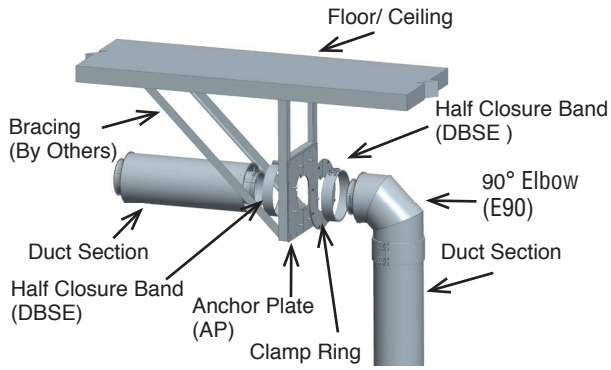
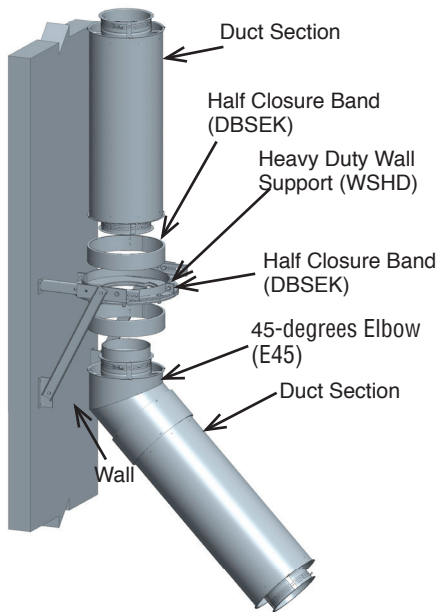

Figure 105: Elbow with an Anchor Plate (AP)
Figure 106: Elbow with an Heavy Duty Wall Support (HDWS)
Elbows are to be supported on one end with either an Anchor Plate (AP), an Anchor Plate with Length (APL), or a Heavy Duty Wall Support (WSHD). See **Figure 105** for an example with an AP and **Figure 106** for an example with a (WSHD).